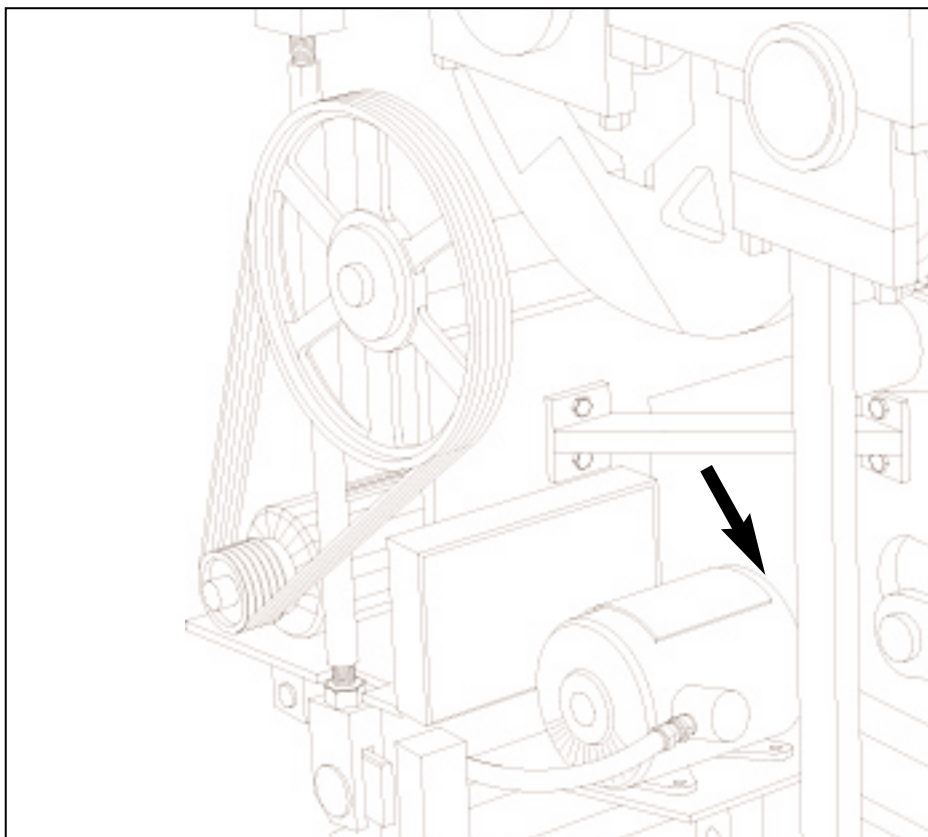

Figure 19.16 MOTOR SHEAVE.
19.2.8 For 60 Hz. power install sheave (# ) on drive motor. For 50 Hz. power install sheave (# ) on drive motor. Figure 19.16 below shows the location of the sheave.